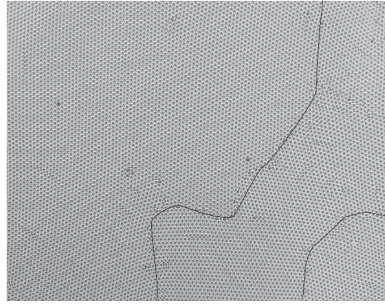
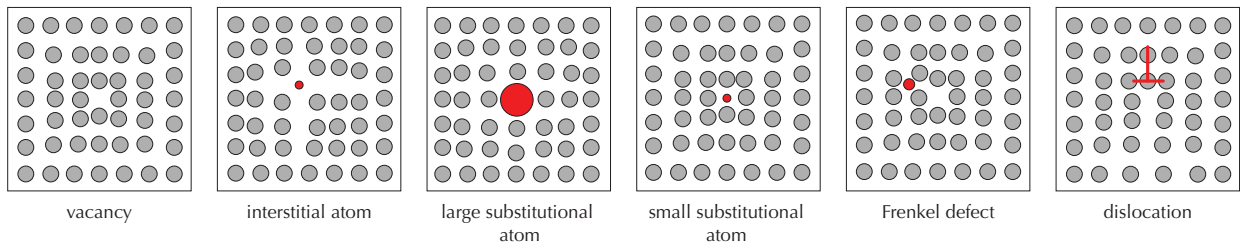
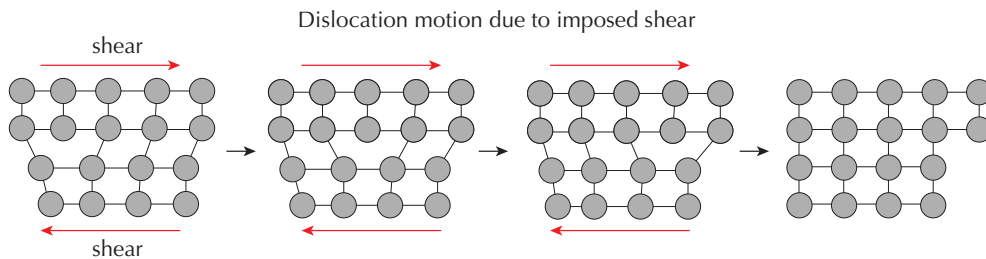

Figure 2: Grain boundaries in a bubble raft.
Figure 3: 2D defects in the square lattice.
Figure 4: Dislocation propagation in the square lattice
If the bubbles are small (1mm) and are mono-disperse, the raft is a very good two dimensional model of a crystal - the regular arrangement of the bubbles is an analogue to the structure of a close packed plane of atoms in e.g. aluminium. **The defects** in the arrangement of bubbles are closely analogous to such features in real crystalline materials. You will focus on *grain boundaries* (see figure 2), on *point defects* (see figure 3) and on *lattice dislocations* (see figures 3 and 4).
Instead of a single perfect lattice throughout the raft, you should see patches. These patches are analogous to **crystal grains** in polycrystals (see figure 2). Each patch has a lattice, but the axes are misaligned between a patch and a neighboring patch. The angle by which the axes are misaligned is **the mismatch angle**. Note that all axes on a given lattice are equivalent by symmetry.
2) Each patch is defined by a nice lattice of bubbles, but it is still not perfect. There should be a few point defects, like in figure 3.
- Identify dislocations - at a glance they may look like an ordinary point defect. You will identify them in two ways: a geometric way in a photo (like in figure 3), and a dynamical way (like in figure 4).
Can you confirm that the movement line corresponds to the direction of the Burgers vector, like in the figure 4?